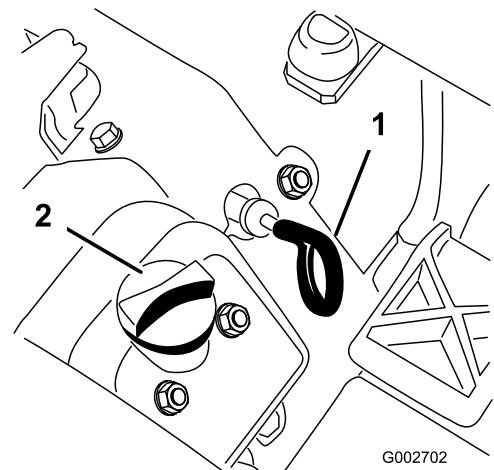

Figure 15
3. Pull out the dipstick (Figure 15) and wipe it with a clean rag.